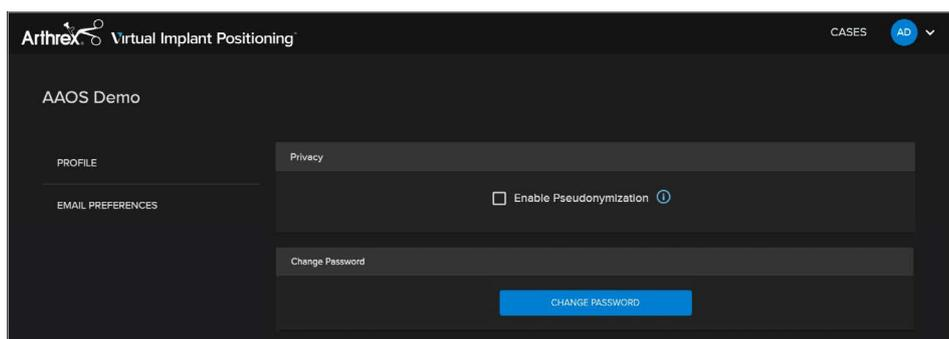

Figure 85. Privacy and Security page
- Users may enroll in pseudonymization where when enrolled, the DICOM file will have all PHI removed and replaced with a placeholder of the user's choosing during the CT upload process. Users may opt in by selecting the "Enable Pseudonymization" toggle shown in Figure 85.
- Users may also change their password using the "Change Password" tab where the user will be redirected to Okta to reset their password (Figure 85).